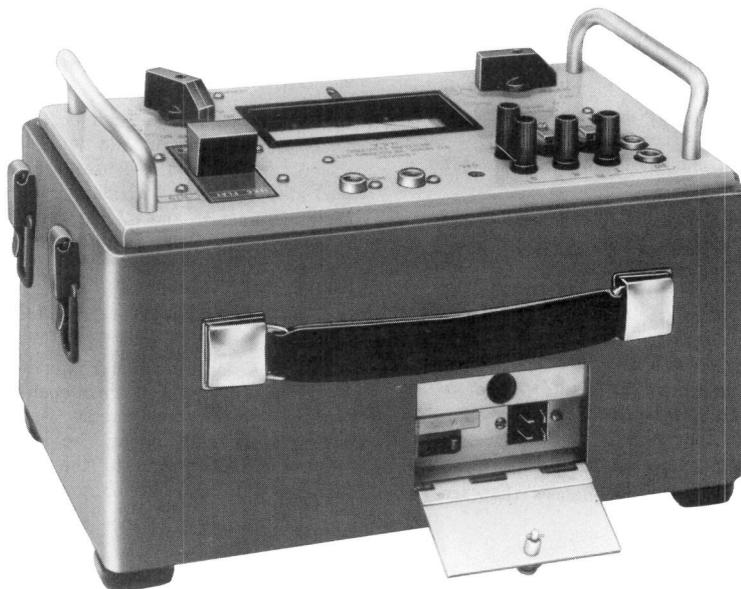

Fig. 11—J94003C Noise Measuring Set, Showing Access to Power Connector
6.02 When the set is to be operated from the external power supply, open the door near the handle by unscrewing the captive screw. Insert the plug from a J87281A power supply into the receptacle on the 3C set (see Fig. 11).